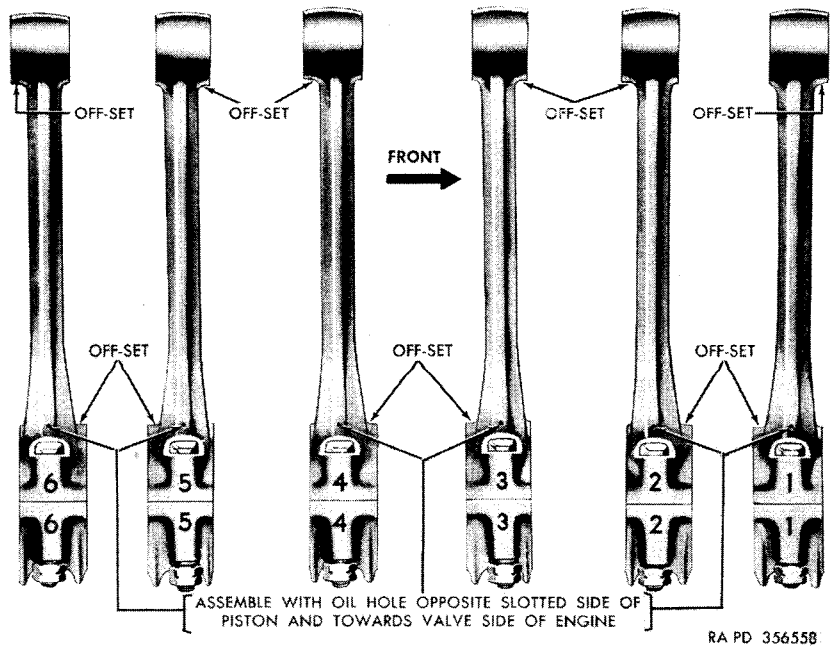

Figure 64. Connecting rod sequence.
*f. Install Piston and Connecting Rod Assemblies.* Coat the piston and rings with engine oil and space the ring gaps so that they are 90° apart. Install the piston ring compressor over the rings so that the flared edge of the compressor contacts the cylinder block. Install the piston in the cylinder with the oil hole in large end of the connecting rod toward the valve side of the engine. Connecting rods for numbers 1, 3, and 5 cylinders are offset in one direction and numbers 2, 4, and 6 are offset in the opposite direction. Each rod must, therefore, be installed in its original position, or if one or more new connecting rods are to be used, be sure each rod has the proper offset for the cylinder in which it is to be installed (fig. 64). Clean the bores of the connecting rods and the bearing caps thoroughly, install the bearing halves, and attach the connecting rods to the crankshaft using new lock washers. Tighten the nuts securing the bearing caps 45 to 50 pound-feet with a torque wrench.